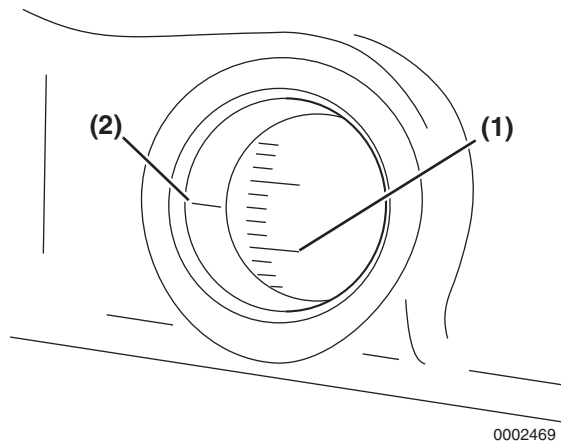

Figure 7-29
2. Determine if the timing is “advanced” or “retarded” by comparing the position of the target timing mark on the flywheel grid (**Figure 7-29, (1)**) with the timing mark on the flywheel housing or back plate (**Figure 7-29, (2)**).